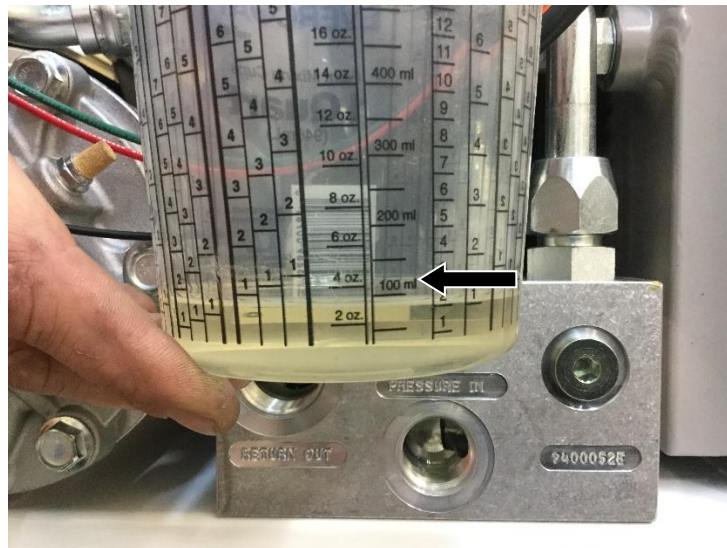

Figure 5
- 5) Have a timer/stopwatch ready. Start and run the Predatair for one minute and monitor the amount of oil that flows through the temporary hose from the hydraulic motor into the cup. (Figure 5)